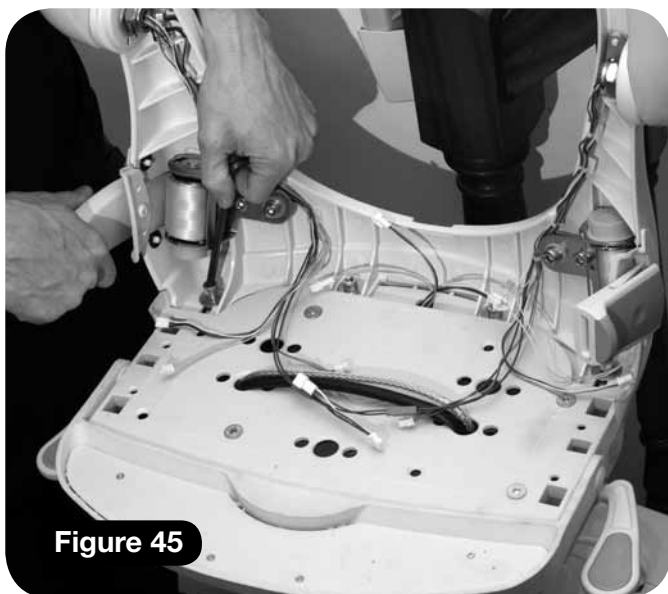

Figure 45
- 1 Place the seat back onto the seat base and using a ball ended 6mm Allen key secure it with the four bolts and washers provided **(Figure 45)**.